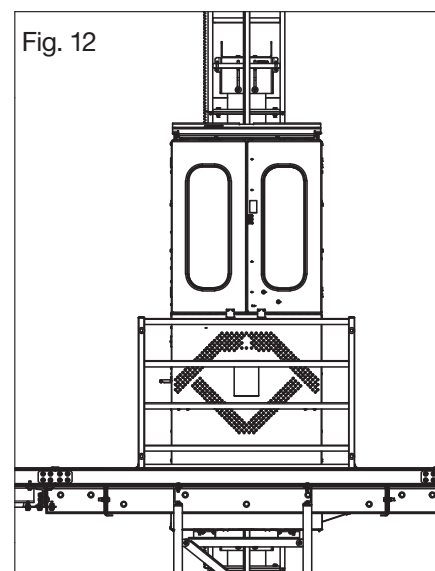

Fig. 12
- 9.1. For bucket type ¹⁾: adjust the bottom mechanical stop so that it is possible to open the double door just above the fence railing. The service lift must stop when obstruction device reaches the bottom mechanical stop (see Fig. 12).